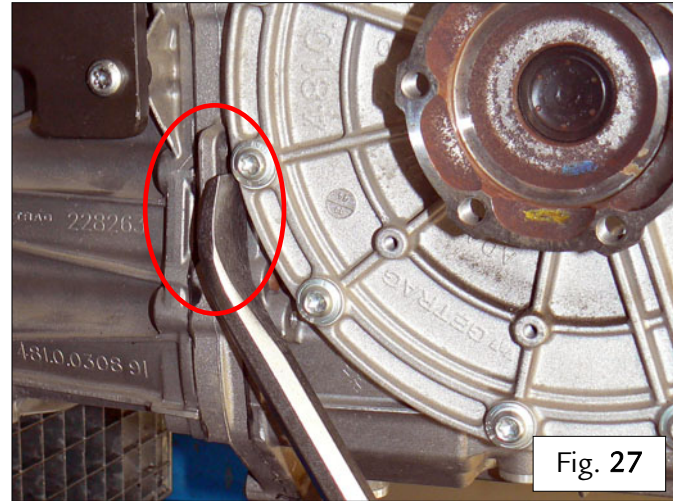

Fig. 27
- Using a crowbar placed on the indicated leverage lug on the gearbox, detach the differential housing – Fig. 27.